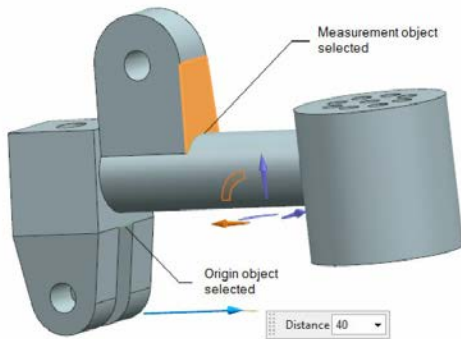

Figure 13-133 Edges to be selected
- j. Increase the length of the single flange using the **Linear Dimension** tool, refer to Figure 13-133.
2. Select the lowermost edge of the block, refer to Figure 13-133; the **Measurement Object** button is chosen automatically in the **Measurement** rollout. Now, select the lowermost edge of the face of the single flange, refer to Figure 13-133.